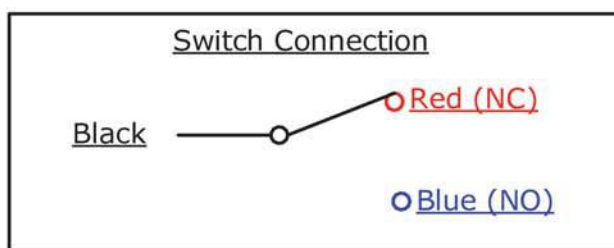

Fig. 2
- ✓ Re-connect microswitches wires. (Fig. 2)